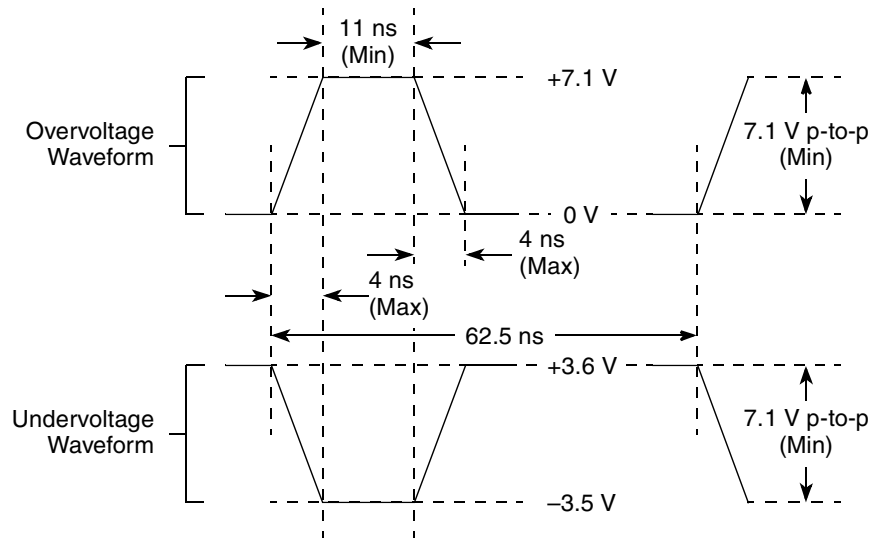

Figure 3. Maximum AC Waveforms on PCI Interface for 3.3-V Signaling
6. OV_{IN} on the PCI interface may overshoot/undershoot according to the PCI Electrical Specification for 3.3-V operation, as shown in Figure 3.
Figure 3 shows the undershoot and overshoot voltage of the PCI interface of the MPC8313E for the 3.3-V signals, respectively.